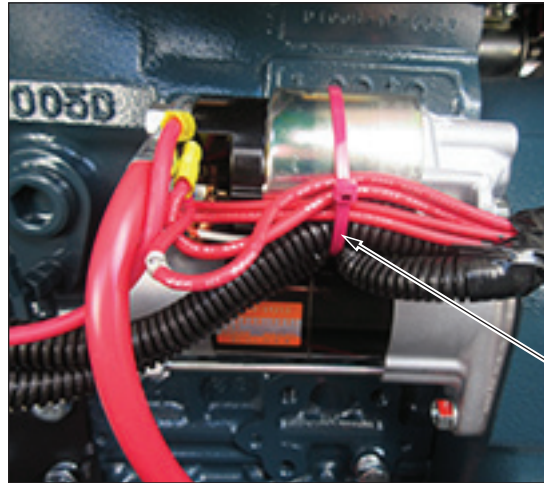

Figure 33 - Starter Wires
- j. See Figure 33. Connect red wires to starter, as follows.
iii. See Figure 33. Cable-tie red wires and engine harness to the starter, as shown.